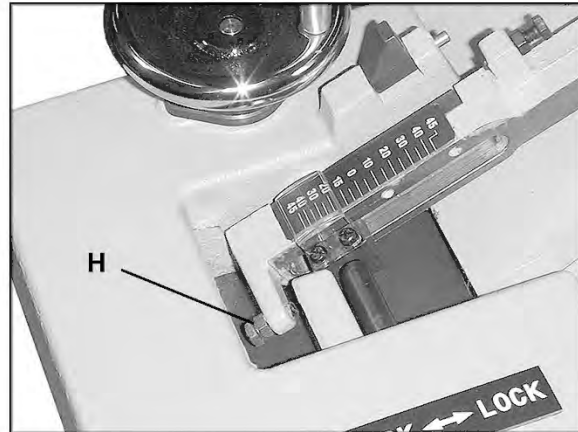

Figure 17
1. The 45° forward stop is controlled by the screw (H, Figure 17).
2. Loosen the locking handle (B, Figure 16) and loosen the hex nut on the screw (H, Figure 17).
4. Rotate the screw (H, Figure 17) until it contacts the casting in front of it.
5. Tighten the hex nut on the screw (H, Figure 17) and tighten locking handle (B, Figure 16).